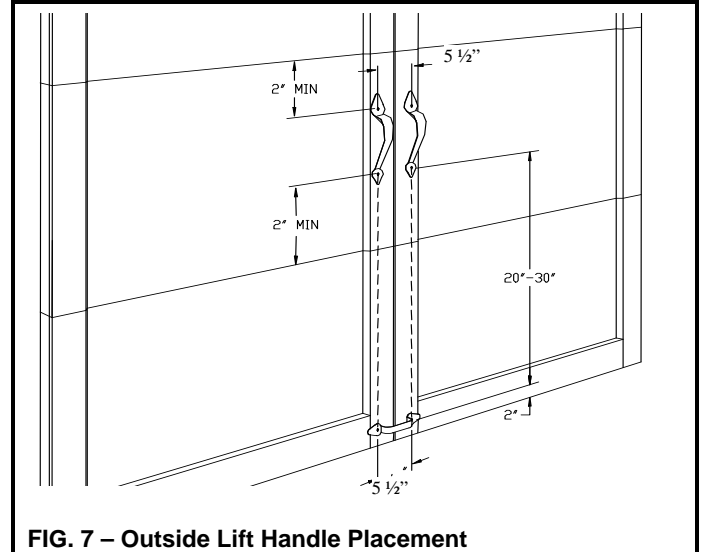

FIG. 7 – Outside Lift Handle Placement
Step 1: Center the horizontal ornamental lift handle horizontally on the outside of the bottom door section. Using the handle as a template, mark the holes to be drilled. The holes must be located exactly 2" from the bottom of the section (See Fig. 7).
Step 6: Take the two vertical ornamental handles and position on the 2nd section. Using the handles as a template, mark the holes to be drilled. With the sections stacked, the lower hole on each vertical handle must lie between 20" and 30" vertically from the holes on the bottom handle. The holes on each vertical handle should be centered 5-1/2" horizontally from each other. The holes on both vertical handles should line exactly with the holes on the bottom horizontal handle. No hole may be closer than 2" to the top or bottom of the section (See Fig. 7).